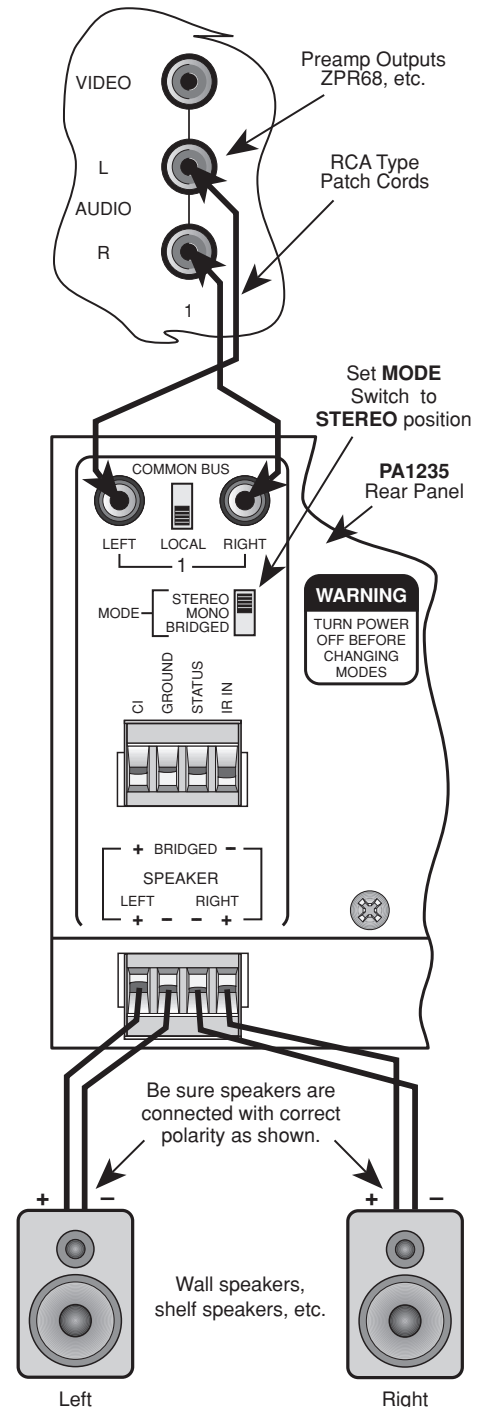

Fig. 6 STEREO Mode Connections
1. Using good quality RCA-type patch cables, connect the L and R OUTPUT jacks of the driving preamp to the LEFT and RIGHT input jacks on the PA1235. Do this for each amplifier pair. Refer to **Fig. 6**.
5. Be sure to observe correct polarity by connecting the "+" and "-" terminal from each channel on the PA1235 to the corresponding "+" and "-" terminals on each speaker. This will ensure correct "phasing". See **Fig. 6** and Speaker Phasing, following.
- a) If the "+" (positive) and "-" (negative) terminals on your speakers are correctly marked, and visible, and you have wired the system as shown in **Figs. 6 and 7**, then the system will be "in phase". No further action is required.
10. When connecting speakers for each room, be sure to observe correct polarities as shown in **Fig. 6**.